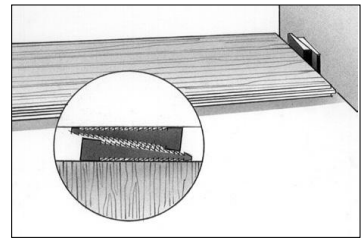

Fig. 4
5. Two tapered spacers can be used as wedges to accommodate irregular walls (**Fig. 4**).